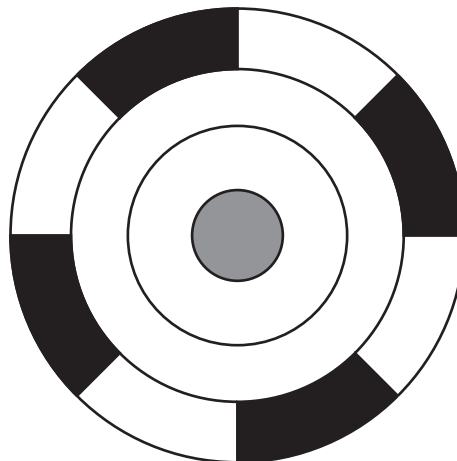

Figure Q5(a)
5. Figure Q5(a) illustrates a partially completed **pure/natural binary coded disc** for use in an optical rotary absolute encoder. On **Worksheet Q5**